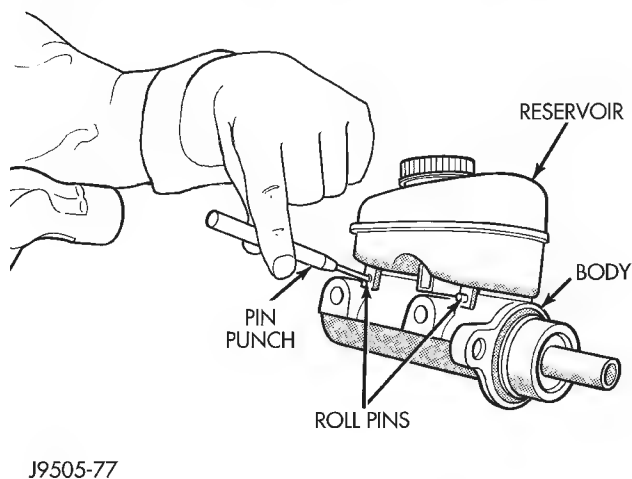
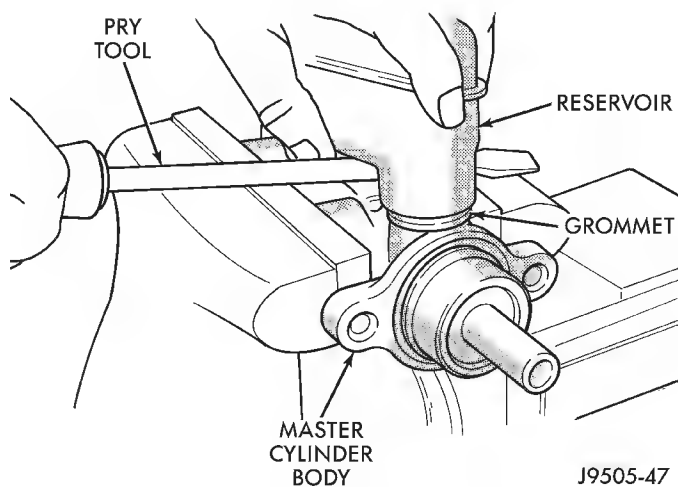

Fig. 17 Removing/Installing Reservoir Retaining Pins
Fig. 18 Loosening Reservoir From Grommets
(1) Remove reservoir cap and empty fluid into drain container.
(2) Remove pins that retain reservoir to master cylinder. Use hammer and pin punch to remove pins (Fig. 17).
(3) Clamp cylinder body in vise with brass protective jaws.
(4) Loosen reservoir from grommets with pry tool (Fig. 18).
(9) Start reservoir in grommets. Then rock reservoir back and forth while pressing downward to seat it in grommets.
(10) Install pins that retain reservoir to cylinder body (Fig. 17).
(11) Fill and bleed master cylinder on bench before installation in vehicle.